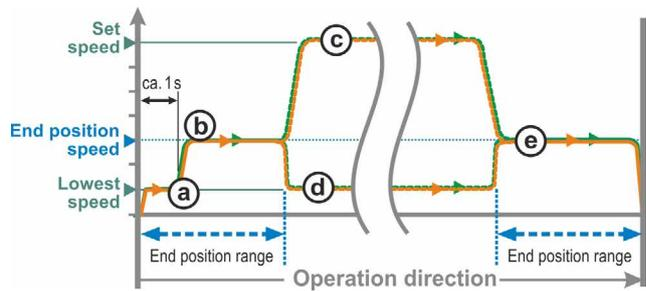

Fig. 1: End position speed 'Normal'
- from the end position at the lowest speed, approx. .1 sec. (fig. 1: curve **a**), to change to the end position speed, refer to **b**;